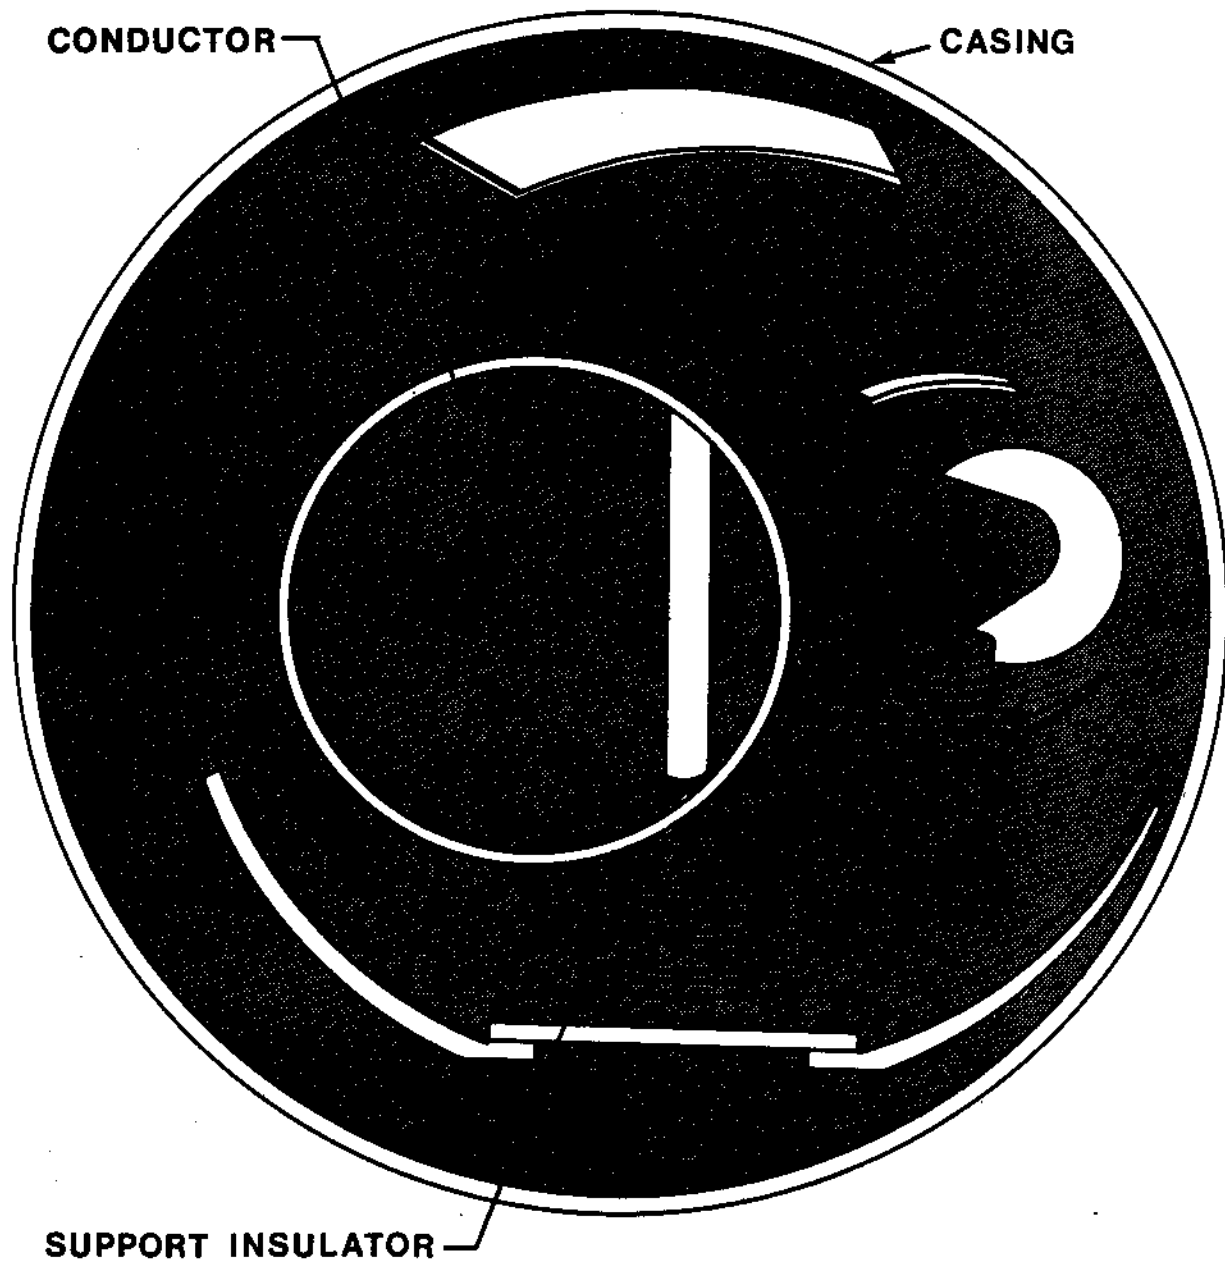

Figure 7(B): Isolated Phase Bus mounted on support insulators in the cooling duct. (Only one conductor is shown)
The IPB conductor is tubular and it is placed in a circular or rectangular casing to provide forced air cooling and environmental protection. Figures 7(A) and 7(B) show sections of the IPB. Cooling is necessary to remove large I^2R heat developed and this is provided by forced air circulation.